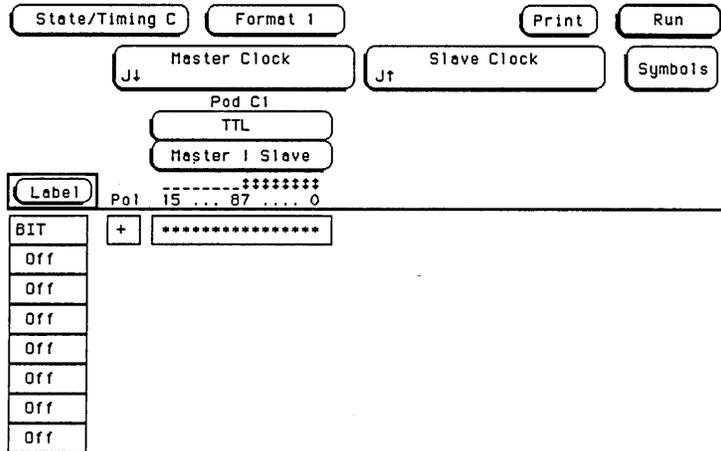

Figure 3-30. Format Screen
- 4. Set up the Format screen as in figure 3-30, assigning the falling clock transition as master and the rising transition slave. Refer to steps a through c if unfamiliar with the menus.